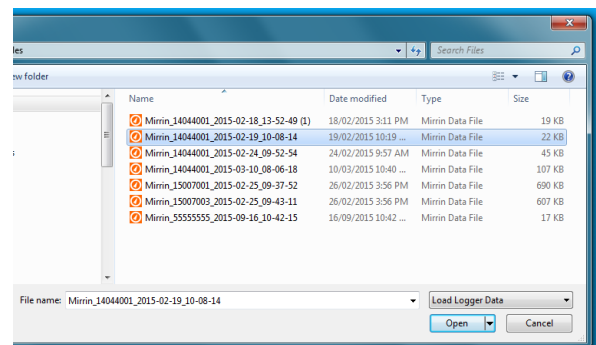

Figure 2.12.3
Step 3: Select the desired 'MLL file' to open. The filename will appear next to 'File name' as shown in figure 2.12.3 and click on 'Open'.